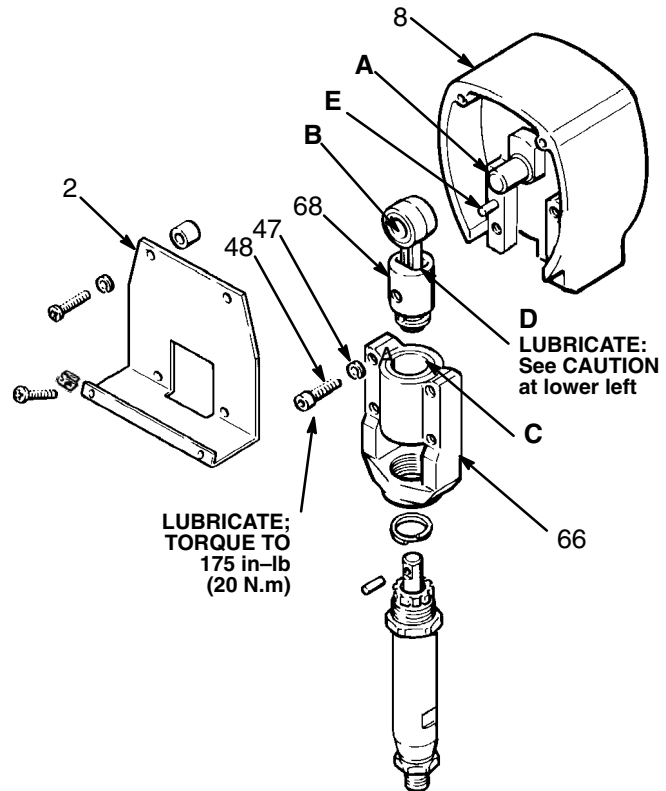

Fig 18
**NOTE:** Refer to Fig 18.
1. Remove the sprayer's shroud. Remove the lift handle (2). Remove pump as described on page 16.
2. Remove the screws (48) from the bearing housing (66).
3. Lightly tap the lower rear of the bearing housing (66) with a plastic mallet to loosen it from the drive housing (8). Then pull the bearing housing (66) and the connecting rod (68) straight off the drive housing (8).
4. Replace the drive housing (8) if the crank (A) is worn or damaged.
5. Clean and inspect the bearing housing (66) and connecting rod (68), including the needle bearing (B). Replace both parts if either is worn or damaged.
6. Evenly lubricate the inside of the bronze bearing (C), and fill the cavity of the connecting rod (D) with SAE non-detergent motor oil. Liberally pack the needle bearing in connecting rod assembly (68) with bearing grease.
10. Continue reassembling the parts in the reverse order of disassembly. See the torque note in Fig 18.